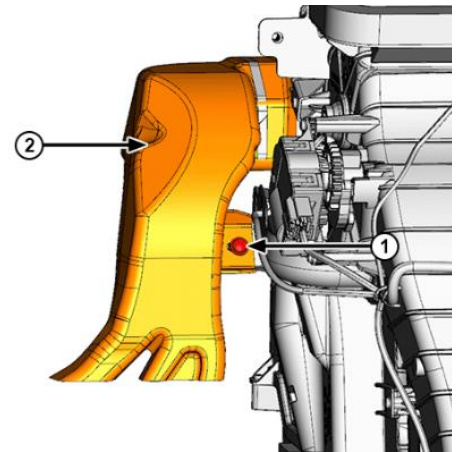

Figure 8 – Air Duct and Fastener
15. To aid in removal of the HVAC nut, remove the fastener (1) securing the front left floor air duct (2) and remove the front left floor air duct from the vehicle (Figure 8).